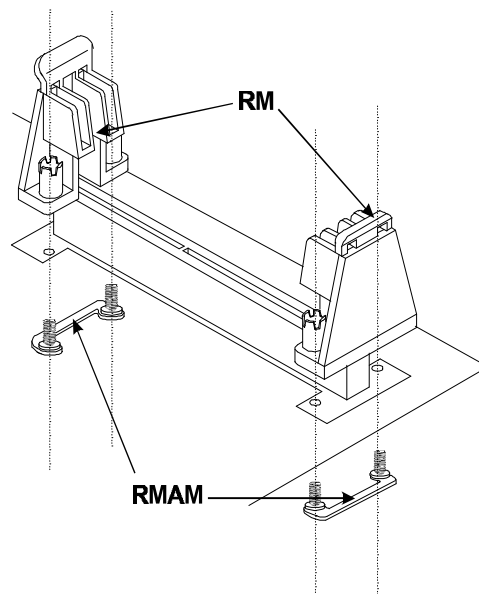

Figure 2-24
1. Locate the Retention Mechanism (RM) Mounting Holes of Slot 1 on main board. (Refer to Figure 2-24)
2. Insert two Retention Mechanisms (RM) face to face on opposite sides of Slot 1. (Refer to Figure 2-24)
3. Screw the four captive nuts (Refer to Figure 2-24) on the RM with a screw driver to secure RM to two RMAMs.